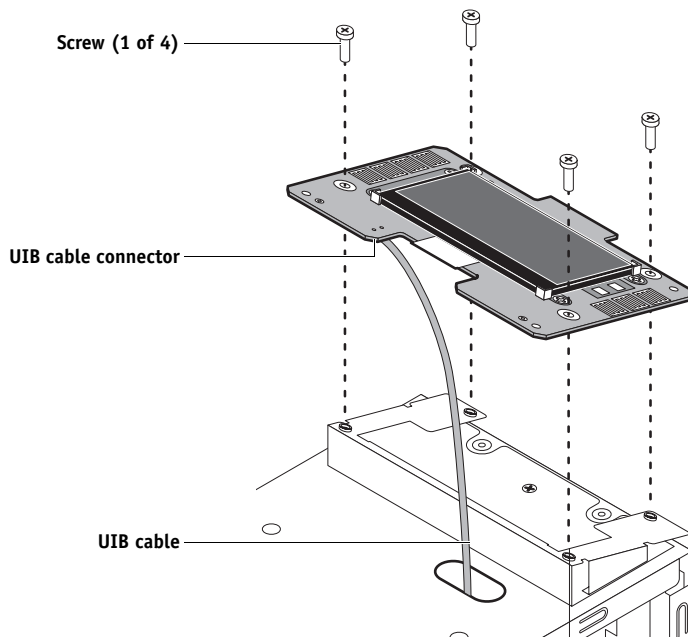

FIGURE 18: Removing/replacing the User Interface Board
6. Attach the UIB cable to the connector on the top of the UIB (see Figure 18 on page 56).